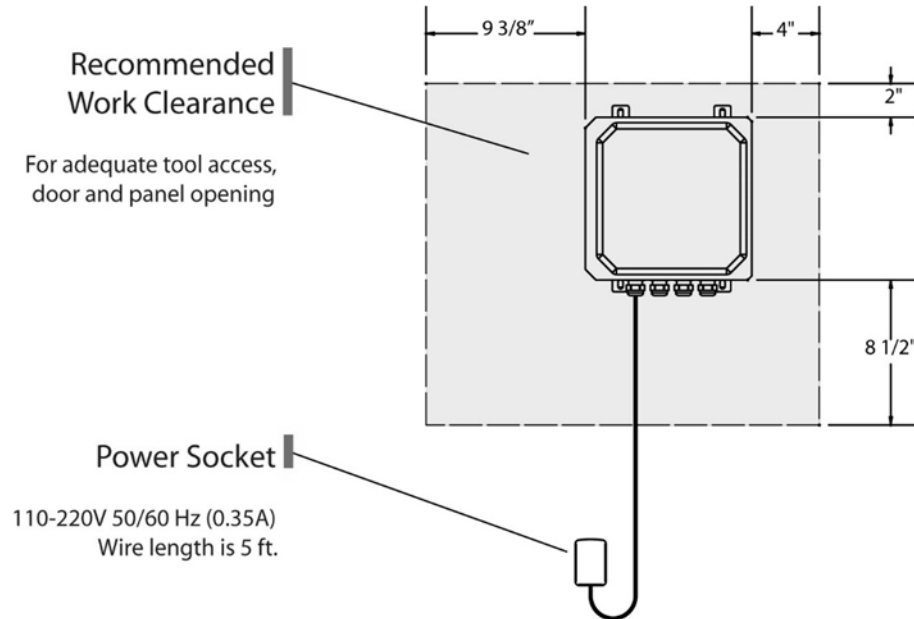

Figure 4.1 Mounting Clearance for iGrow1400™
2. Since the iGrow 1400™ is equipped with a hinged door and a hinged access panel for easy service and installation, make sure there is adequate workspace. The recommended area is as diagrammed in Figure 4.1.